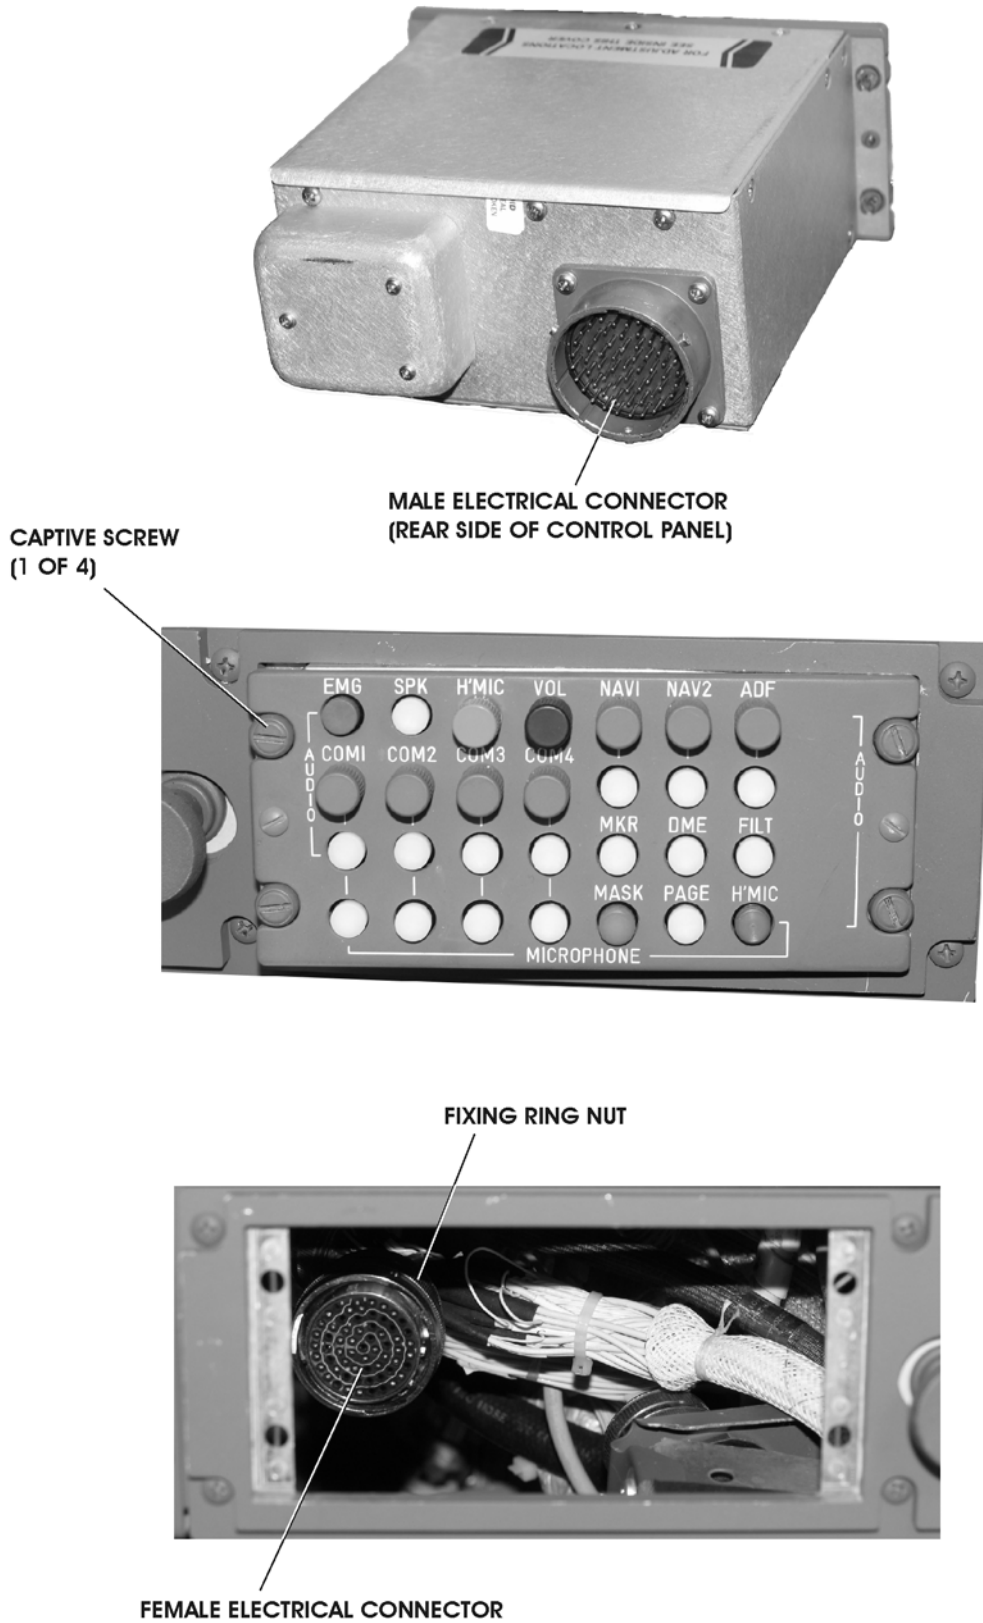

Fig. 201 - Audio Panel
2. Audio Control Panel - Removal (Refer to Fig. 2 and Fig. 201)
3. Audio Control Panel - Installation (Refer to Fig. 2 and Fig. 201)